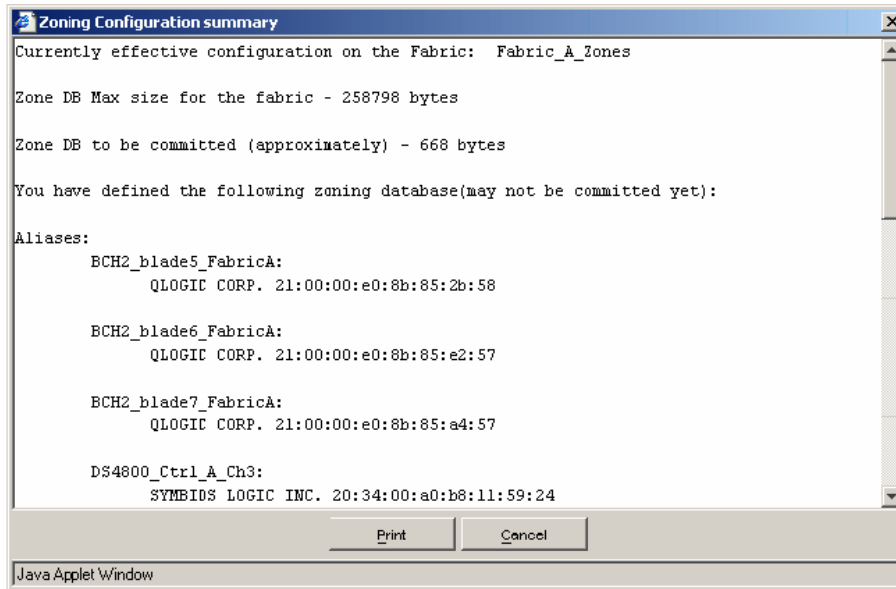

Figure 5-66 Zoning configuration summary
8. Select **File** → **Print Summary** from the upper toolbar. Use the resulting printout to help the map server's WWNs to Storage Volumes (see Figure 5-66).